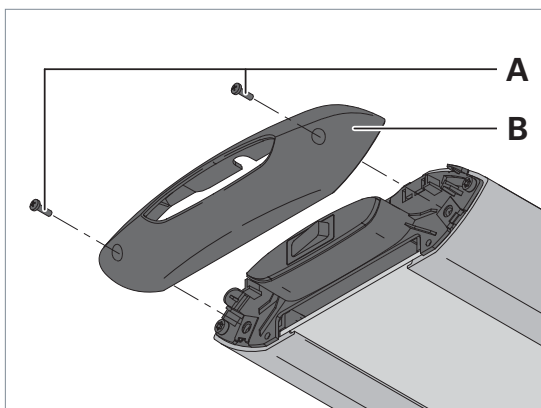
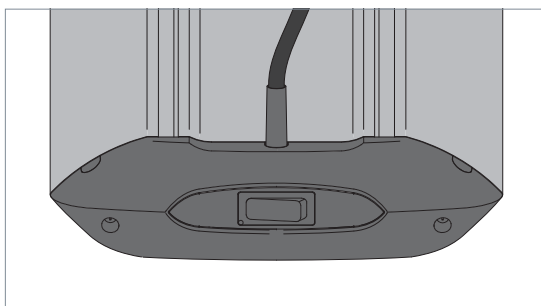

Fig. 3: Mounting the side part.
Fig. 4: Side part and grommet mounted.
- Mount the side part **B** using the enclosed screws **A**, see Fig. 3 and see Fig. 4.